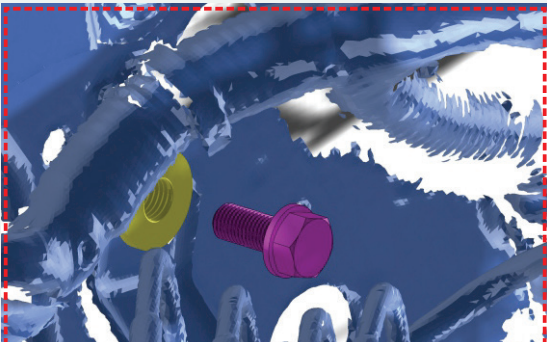

FIGURE 1B
- 3 Remove the OEM Bolt from behind the ABS module as show in FIG. 1B, page 6. Hold on to this bolt as you will screw it back into this thread in a later step.